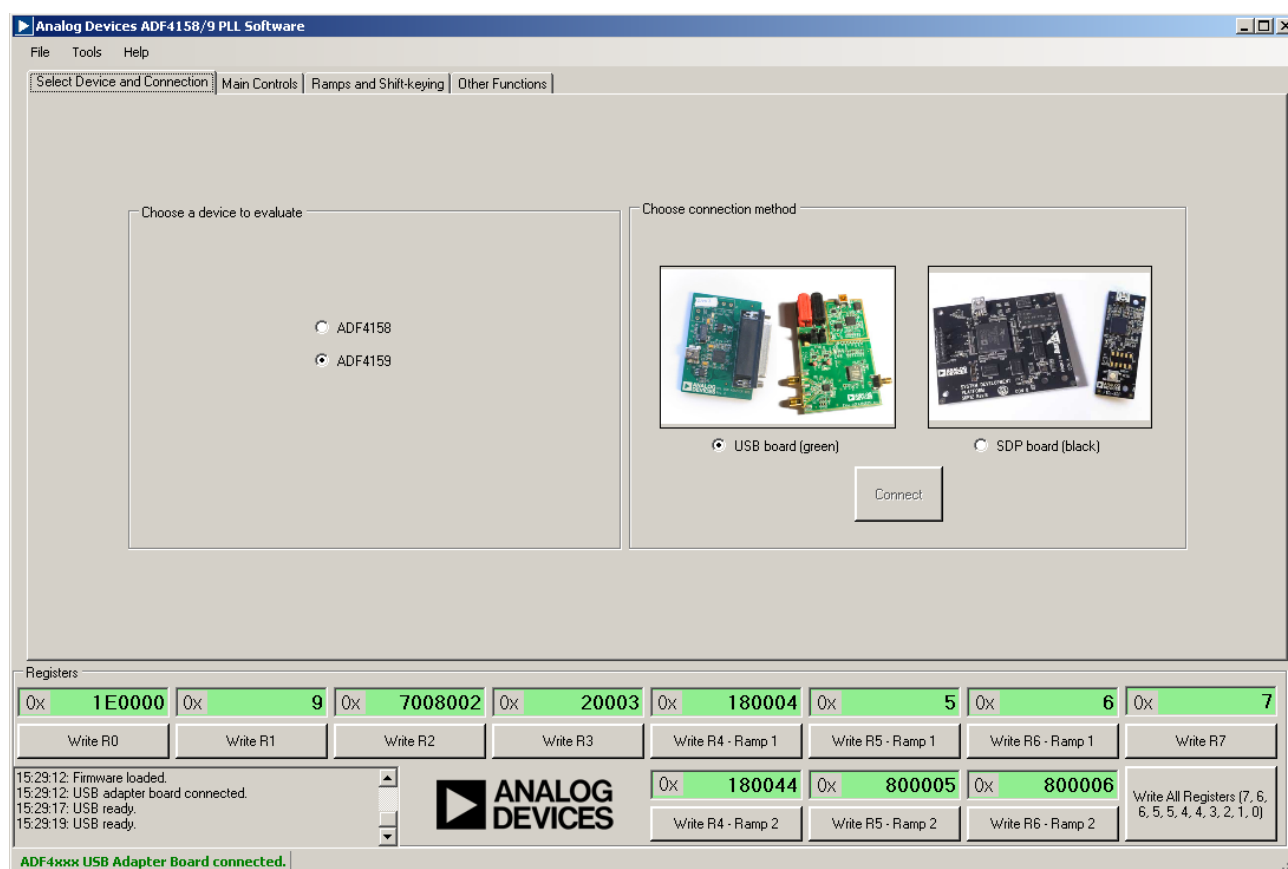

Figure 6. Software—Device Selection
3. Select **ADF4159** and **USB board (green)**, and then click **Connect** (see Figure 6).